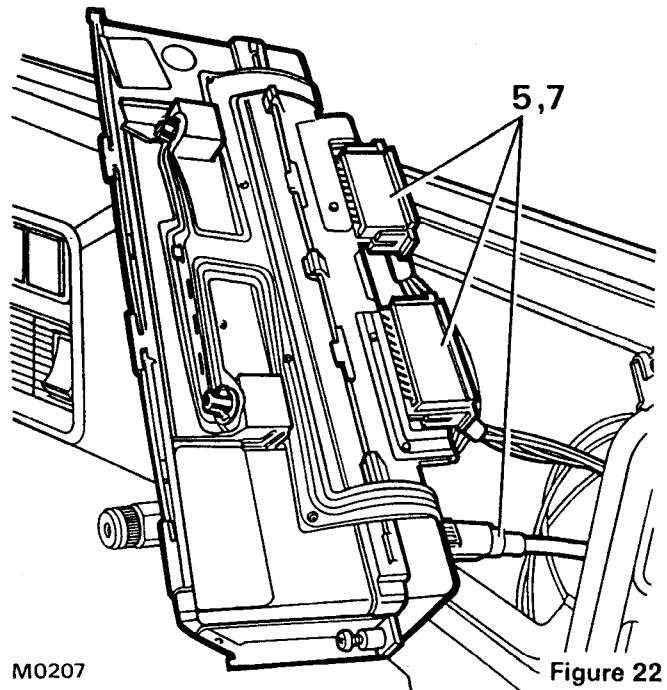

Figure 22
- 5 Remove instrument binnacle and disconnect multi-plugs and speedo cable, see figure 22.